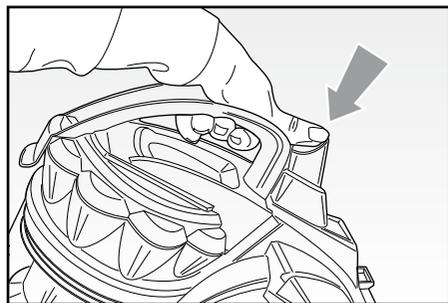

Fig. 6
- Press the release button (D) and at the same time take out the dust container (A) using the handle (E) (Fig. 6).